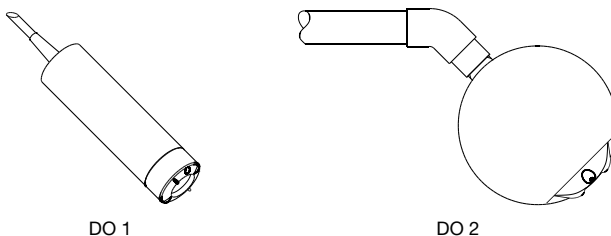

Fig. 14: Positions of DO sensors during run-in
- ▶ Hold the sensor downward (as shown in Fig. 14) in the atmosphere until the measured variable displayed on the DULCOMETER® D1C has stabilised. A 2 minute run-in period is usually sufficient.